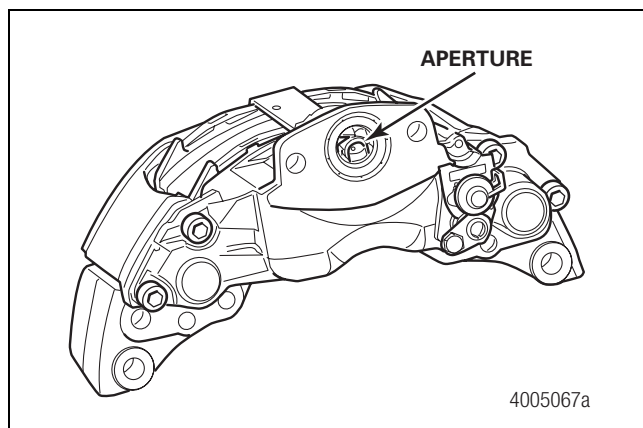

Figure 7.3
3. Visually inspect the chamber piston, chamber seal and chamber-mounting aperture on the caliper housing assembly. Figure 7.2 and Figure 7.3.